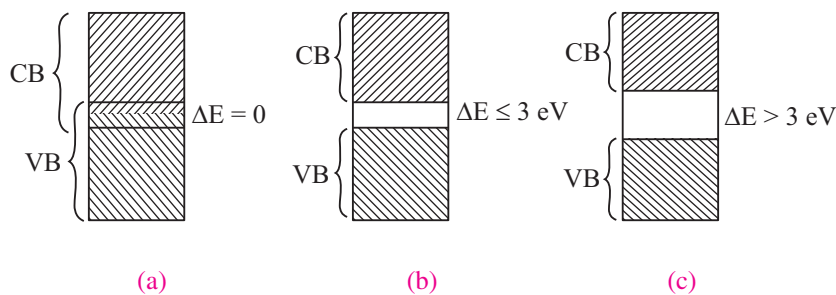

Fig. 28.1 Energy band in (a) Conductors (b) Semiconductors (c) Insulators
If in a solid at equilibrium separation, the conduction band (CB) and valence bands (VB) overlap as it happens in case of metals the material is conductor [Fig. 28.1(a)].
If at equilibrium separation the conduction band is completely empty, valence band is completely full and there is a small band gap ($\Delta E \leq 3 \text{ eV}$) between the highest level of valence band and lowest level of conduction band, called a forbidden energy gap, the solid is a semiconductor. [Fig. 28.1(b)].